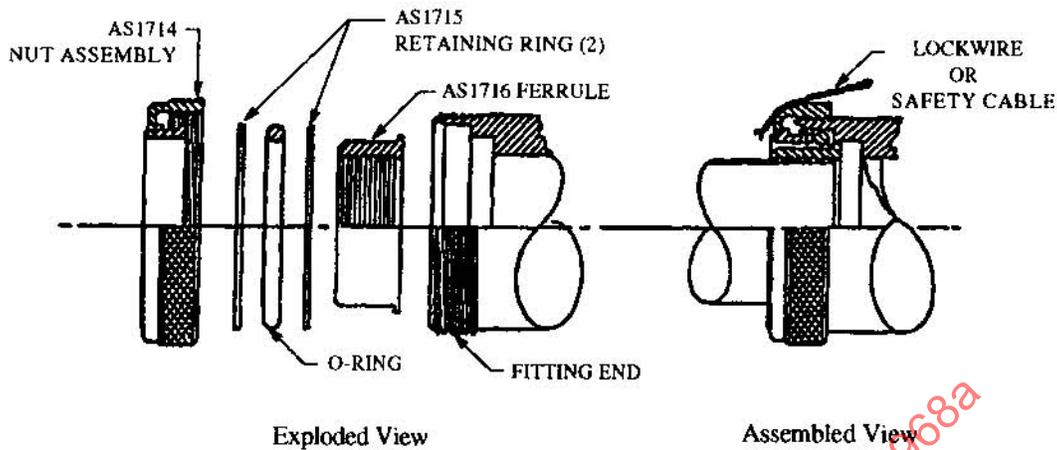

FIGURE 2 - Assembly of Flexible Type Half-Coupling
3.5.2 Half-Coupling - Flexible (AS1713): The flexible type half-coupling is illustrated in Figure 2.